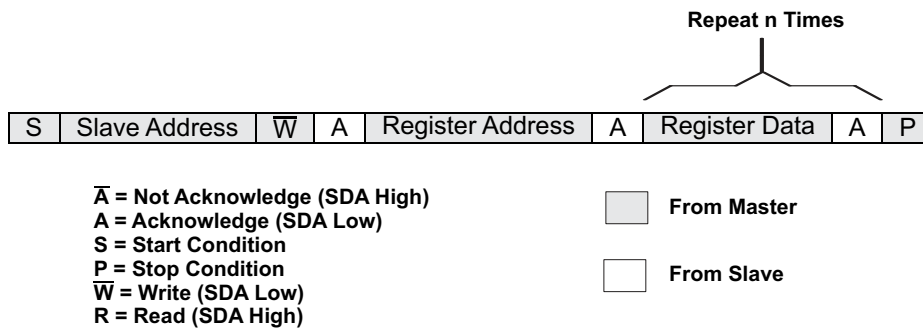
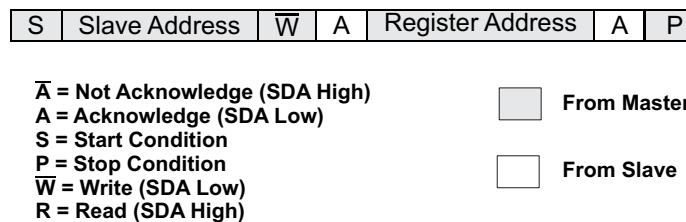
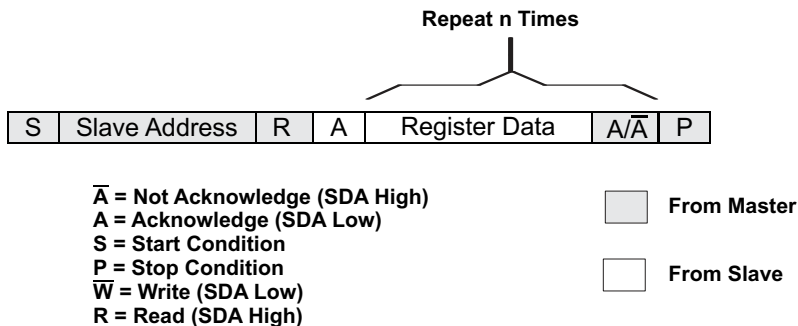
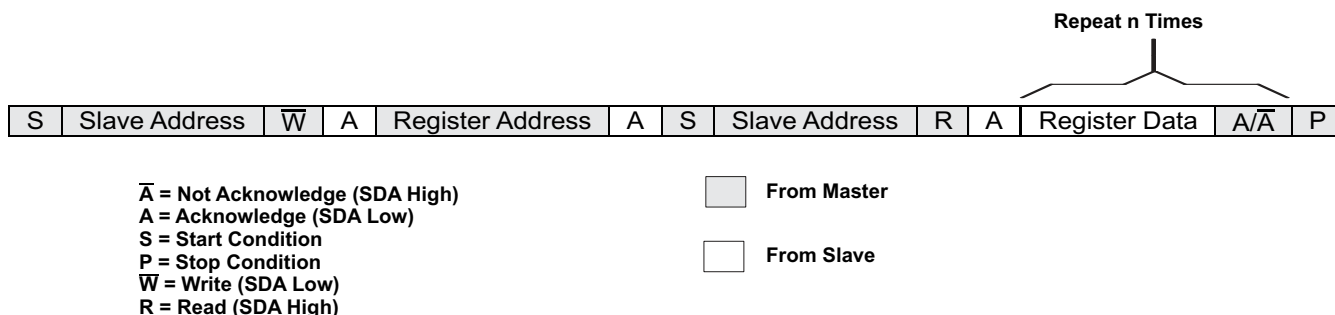

Figure 23. I2C Write Cycle with Register Address and Data
Figure 24. I2C Write Cycle with Register Address Only
Figure 25. I2C Read Cycle
Figure 26. I2C Combined Format Write/Read Cycle
During a write cycle, the slave sends an acknowledge (A) after every byte that follows the device address. The first byte following the device address is the register address, which maps to the register addresses specific to the device. The second byte following the device address is the data byte to be written at the register address (see Figure 23). If only the register address is to be written for a subsequent read sequence, the data byte is omitted and the sequence ends with a Stop (see Figure 24) or a repeated Start after the register address byte (see Figure 26). If multiple data bytes are to be written at subsequent register addresses, the master may continue to send data bytes after each slave acknowledge, and the slave device automatically increments the register address. Note that the master must not drive the SDA signal line during the slave acknowledge since the slave is in control of the SDA bus and may be holding it low.
During a read cycle, the slave acknowledges the initial address byte if it decodes the device address as its own device address. Following this initial acknowledge by the slave, the master device becomes a receiver and acknowledges data bytes sent by the slave. The first byte received by the master is the data stored at the register address, while subsequent bytes are data stored at incrementing register addresses. When the master has received all of the requested data bytes from the slave, the not acknowledge (A) condition is initiated by the master by keeping the SDA signal high just before it asserts the Stop (P) condition. This sequence terminates a read cycle as shown in Figure 25. A combined format is when the read cycle is preceded by a write cycle for setting the register address, and is shown in Figure 26.